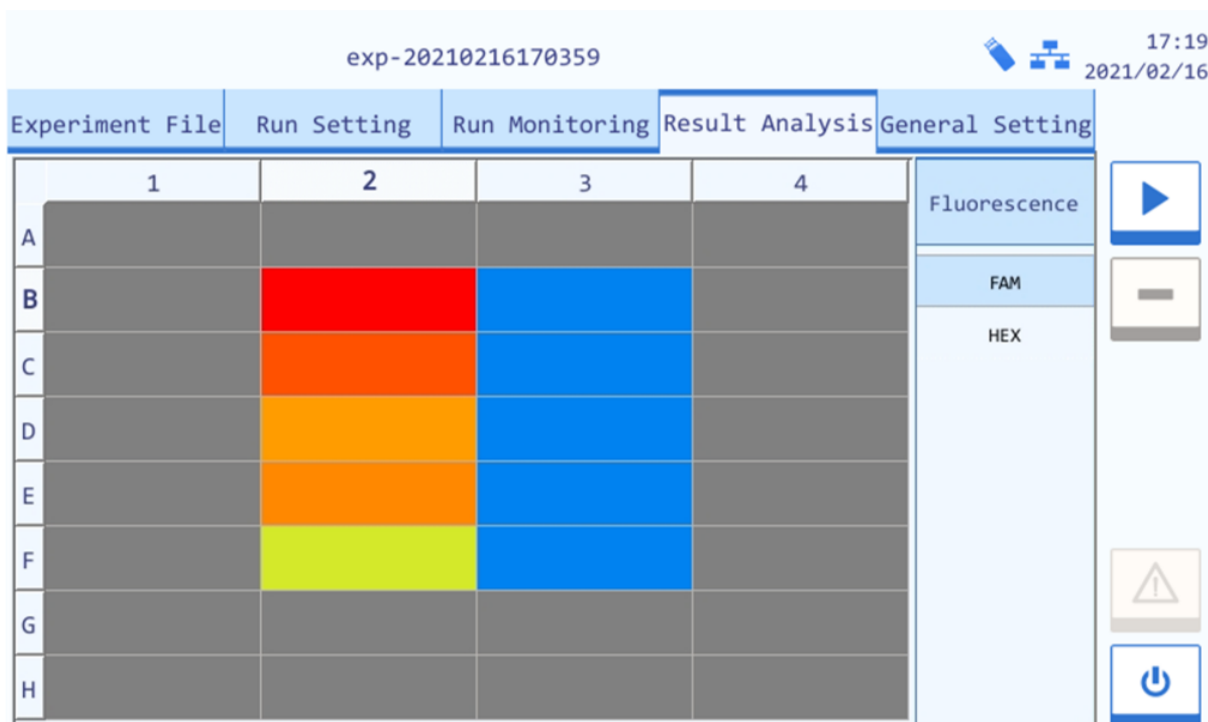

Figure E-5.1. Run Monitoring Diagram - Fluorescence Heat Map
- ▶ The result analysis interface displays the fluorescence heat map of the current experiment by default. User can select a dye in the right **Fluorescence** option column to view the corresponding fluorescence heat map, as shown in figure E-5.1.